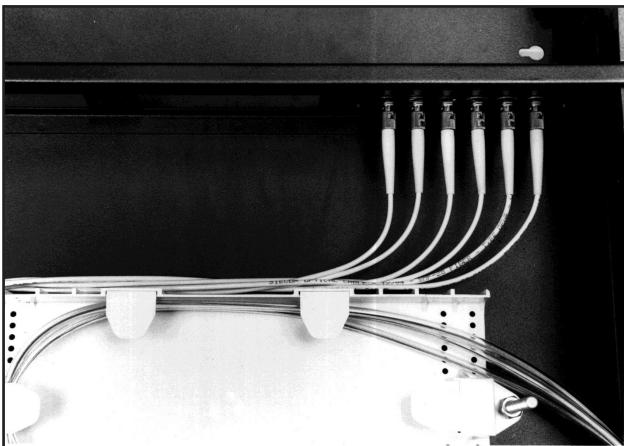

FIGURE 5 - ROUTE THE PIGTAILS
- 7.04** Route the pigtails along the Transition Assy toward the right side of the cabinet, while maintaining a smooth bending radius behind the Adapter Plates. (Figure 5)